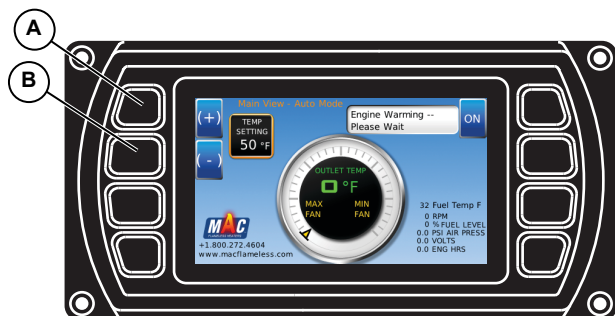

Figure 3-6. AUTO Mode
- To increase output temperature, press (+) (*Figure 3-6*, item A)
- To decrease output temperature, press (-) (*Figure 3-6*, item B)